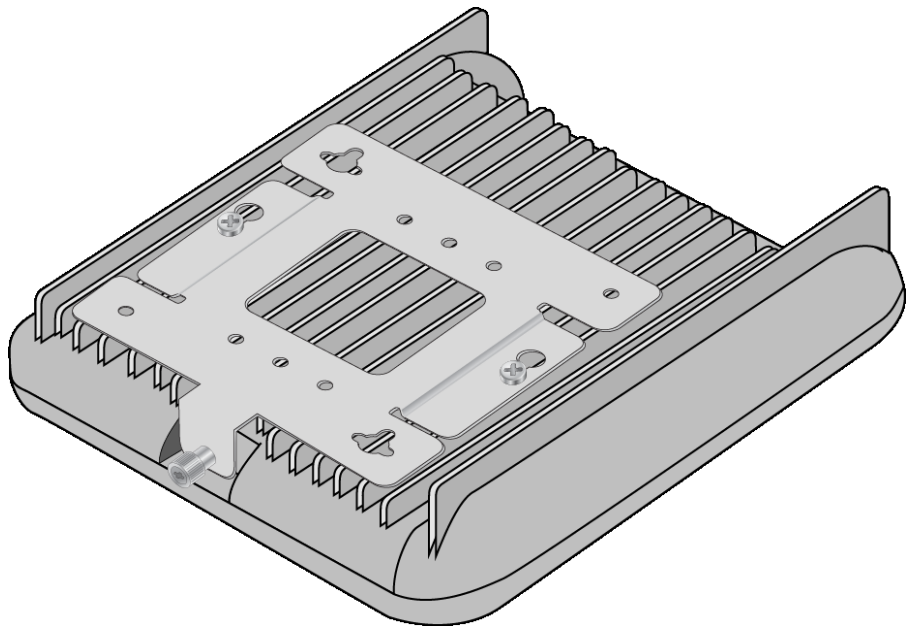

Figure 11. Installing the Mounting Bracket
3. Slide the mounting bracket beneath the screws. Refer to Figure 11.